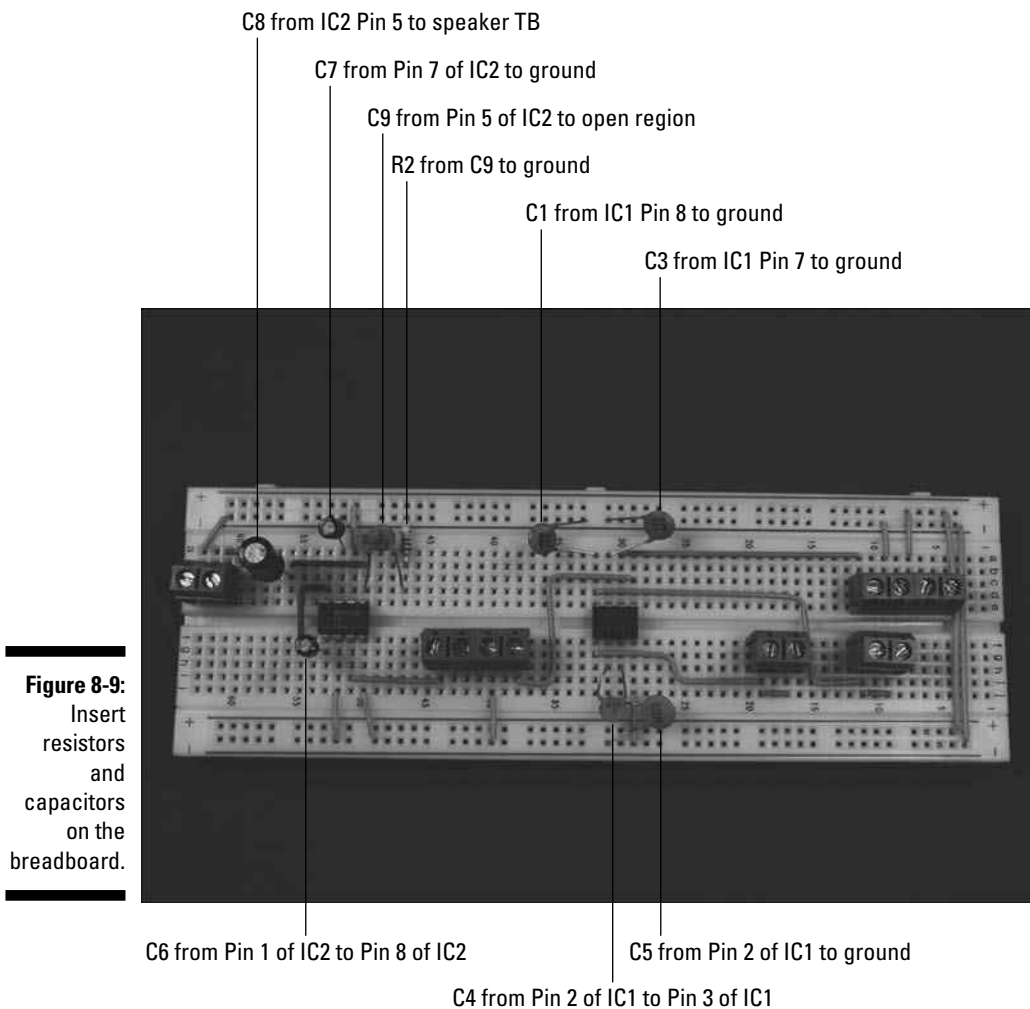

Figure 8-9:
5. Insert two 0.047 microfarad capacitors (C4 and C9), two 10 microfarad capacitors (C6 and C7), one 100 microfarad capacitor (C8), two 0.001 microfarad capacitors (C1 and C3), one 0.1 microfarad capacitor (C5), and one 10 ohm resistor (R2) on the breadboard, as shown in Figure 8-9.